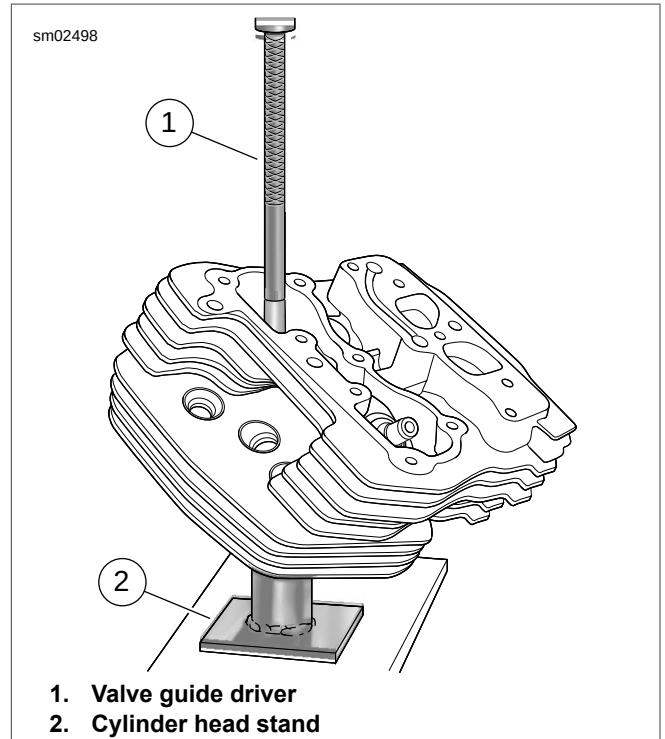

Figure 3-46. Remove Valve Guide
3. Insert VALVE GUIDE DRIVER (Part No. B-45524-1) (1) into valve guide bore.
4. See Figure 3-46. Center valve guide driver under ram of arbor press. Apply pressure until valve guide drops free of cylinder head. Discard valve guide.